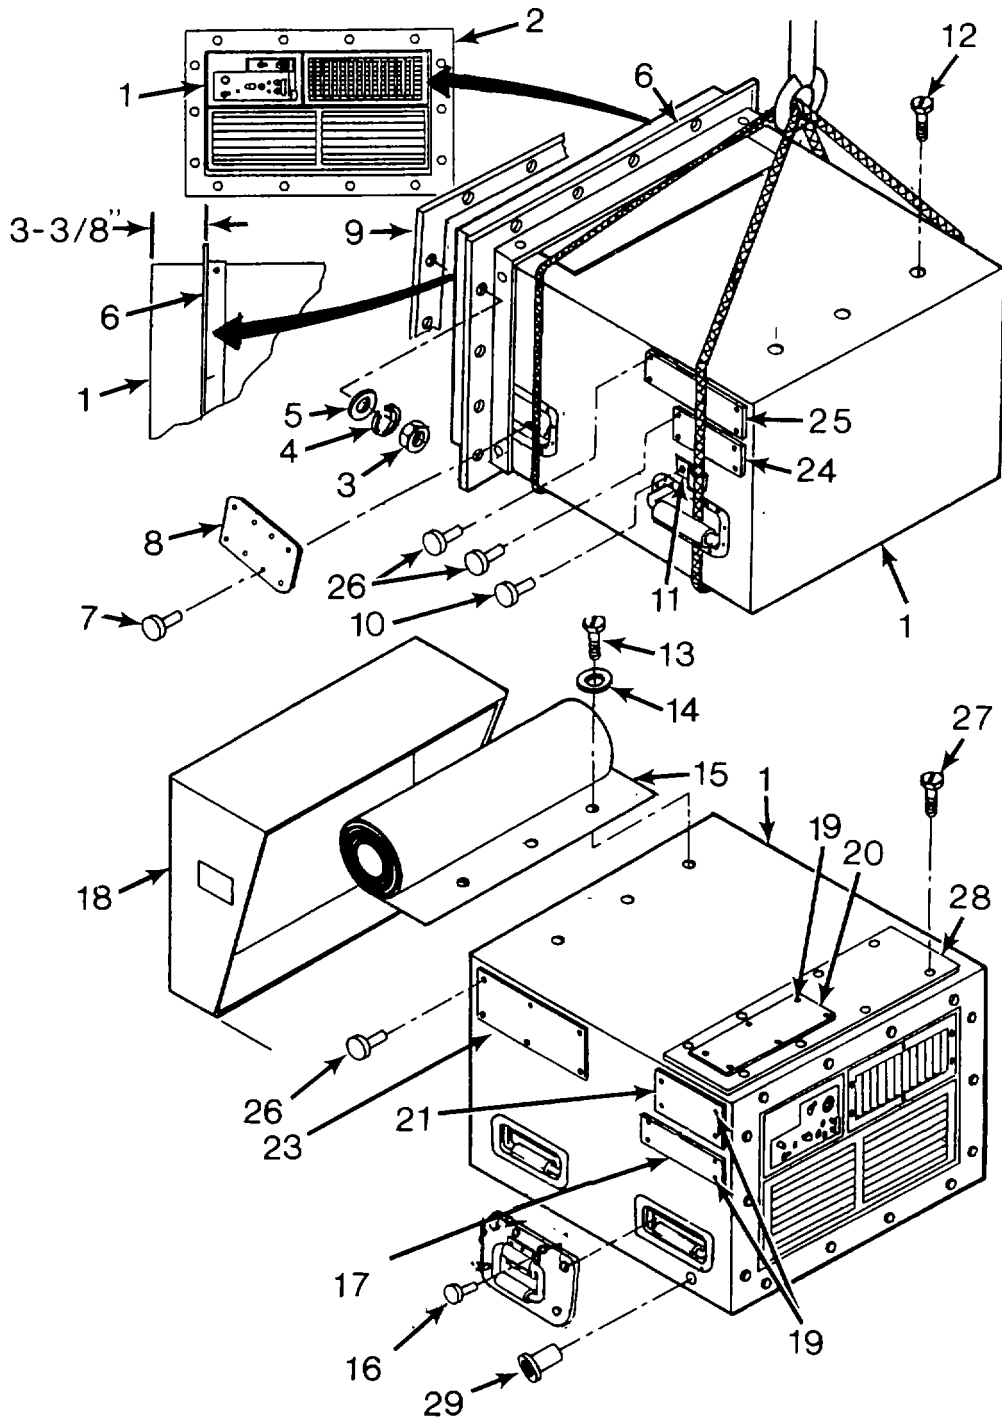

Figure 4-16. Air Conditioner, Replace
(9) From inside of shelter cut RTV sealant between air conditioner (1, Figure 4-16) and inner frame (2) (two layers).
- (10) Remove air conditioner (1) and lower to the ground.
- (11) Remove nuts (3), lockwashers (4), and flat washers (5).
- (12) Cut RTV sealant holding collar (6) to shelter wall and remove collar (6).
- (13) Drill out rivets (7) and pry off handle covers (8).
- (14) Clean RTV sealant from handle covers (8), collar (6), and outer frame (9).
- (15) Drill out rivets (10) and remove cover latches (11) from old air conditioner (2).
- (16) Remove screws (12) from old air conditioner (1).
- (17) Remove screws (13), flat washers (14), and canvas cover (15) from replacement air conditioner (1).
- (18) Drill out rivets (16) and remove front handles (17) from replacement air conditioner (2).
- (19) Position cover (18) on replacement air conditioner (1). Locate cover latch positions and drill mounting holes. Install cover latches (11) on replacement air conditioner with rivets (10).
- (20) Install canvas cover (15), flat washers (14), and screws (13) on old air conditioner (1).
- (21) Install screws (12) on replacement air conditioner (1).
- (22) Chisel off rivets (19) and remove data plates (20), (21), and (22) from replacement air conditioner (1) and relocate to positions (23), (24) and (25) shown in Figure 4-16 and install with rivets (26).
- (23) Install rivets (14) in old data plate mounting holes on replacement air conditioner (1).
- (24) Apply RTV sealant (Appendix E, item 2) to handle covers (8) and install on replacement air conditioner (1) with rivets (7).
- (25) Slide collar (6) onto front of replacement air conditioner (1) and position 3-3/8 inches from the front as shown in Figure 4-16.
(34) Coat the face of the collar (6, Figure 4-16) that mates with the outer frame (9) with RTV sealant (2, Appendix E).
(35) Raise air conditioner (1) and position into outer frame (9).
- (38) Apply RTV sealant (3, Appendix E) to interior joint between air conditioner (1, Figure 4-16) and inner frame (2).